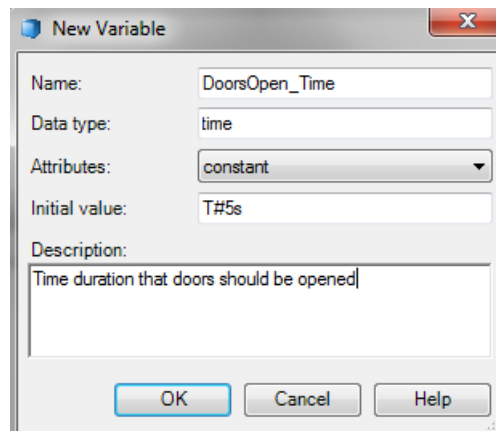

Figure 30. New Variable Dialog
9. The variable can also be declared by, Right click on the grid area, select New > Variable. In the New Variable dialog, declare the values for second variable named, **DoorsOpen_Time** which represents how long (duration time) the doors should remain open as in the Figure 30. Click OK.